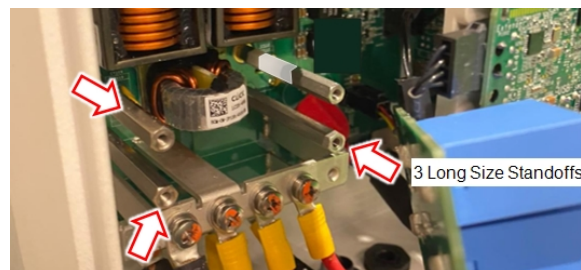

Figure 4: Installing the three long metal Standoffs
7. Position and secure the three long metal standoffs into the threaded holes on the power board (see *Figure 4*) with a torque of 1.2 N*m.